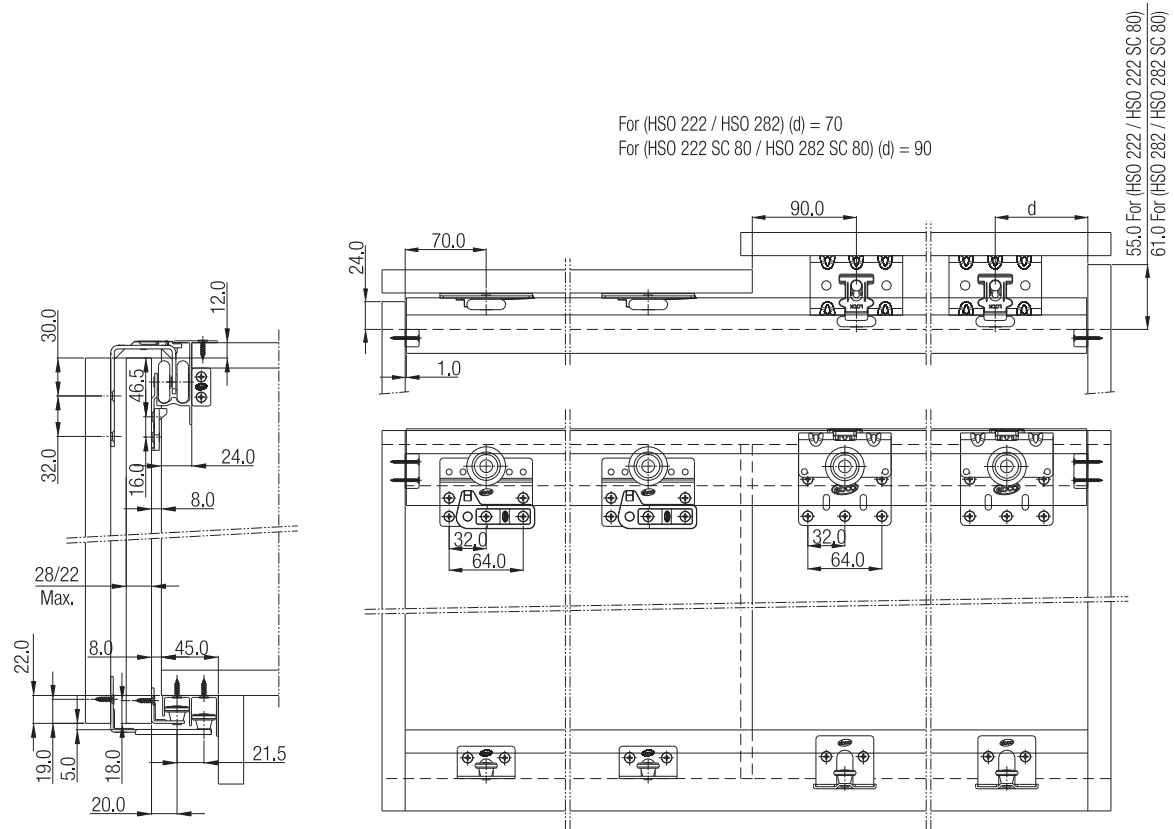
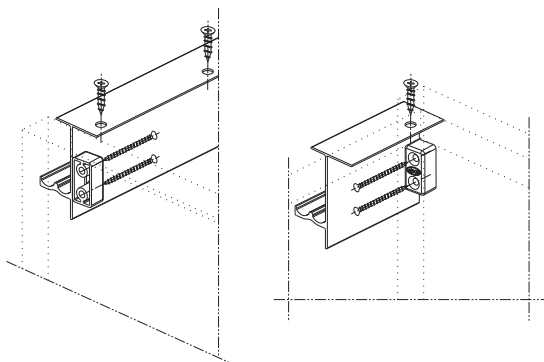
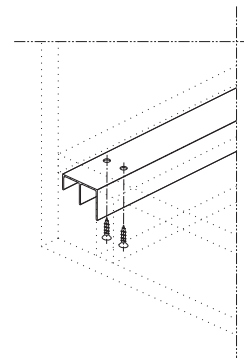

Fig. 1.
Fig. 2.
Fig. 3.
1. Fit the Top Track to the top face of the cabinet as shown in Fig. 2 (For dimensions Refer Fig. 1).
2. Fit the Top Track support behind the top track & to the inner side face of the cabinet as shown in Fig. 2.
3. Fit the Bottom Track to the bottom face of the cabinet as shown in Fig. 3 (For dimensions Refer Fig. 1).
4. Fit the Top Hanger Outer to the inner face of the Outer Shutter & Top Hanger Inner to the inner face of the Inner shutter as shown in Fig. 1.
5. Fit the Bottom Guide Outer to the inner face of the Outer Shutter & Bottom Guide Inner to the inner face of the Inner shutter as shown in Fig. 1.